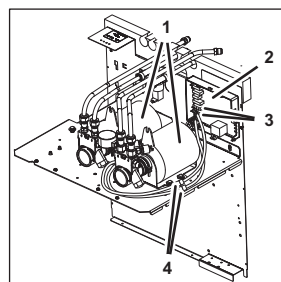

Figure 62
1. Disconnect either the plug (Figure 62/4) of the carbonator pump motor (Figure 62/1) or disconnect the plug (Figure 62/3) of the carbonator pump motor (Figure 62/1) on control system 1 (Figure 62/2).
9. Connect either the plug (Figure 62/4) of the carbonator pump motor (Figure 62/1) or connect the plug (Figure 62/3) of the carbonator pump motor (Figure 62/1) to control system 1 (Figure 62/2).